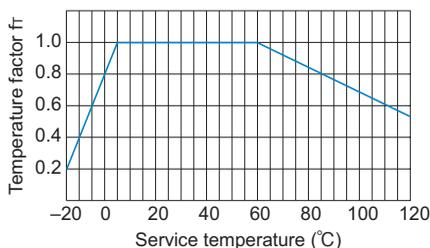

Fig.2 Temperature factor
If the temperature of the spline nut exceeds the normal temperature range, the seizure resistance of the nut and the strength of the material will decrease. Therefore, it is necessary to multiply the dynamic permissible torque (T) and the dynamic permissible thrust (F) by the corresponding temperature factor indicated in Fig.2.
- $f_r$  : Temperature factor (see Fig.2)
- F : Dynamic permissible thrust (N)
- $P_F$  : Axial load (N)